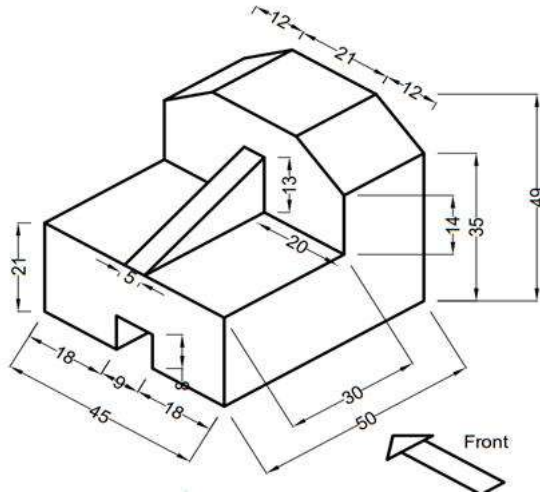

Figure 4
13. **Figure 4** shows an isometric drawing of a block. To a scale 1:1, Draw the following in first angle projection: (20marks)